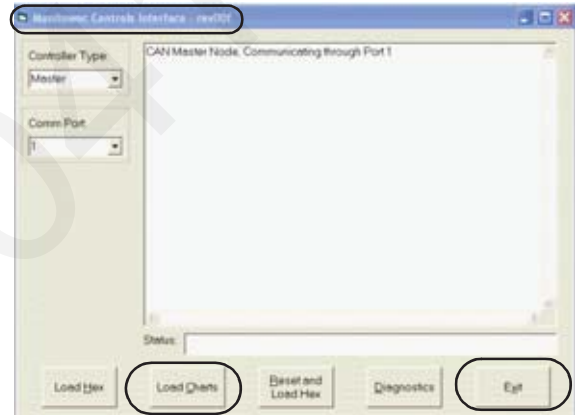

FIGURE 32
- Go back to the **Manitowoc Controls Interface - rev00f or newer** screen (see Figure 32).
14. Click **Exit** button on control interface screen (see Figure 32) and disconnect cable. Scroll up or down on display and working screen will return.